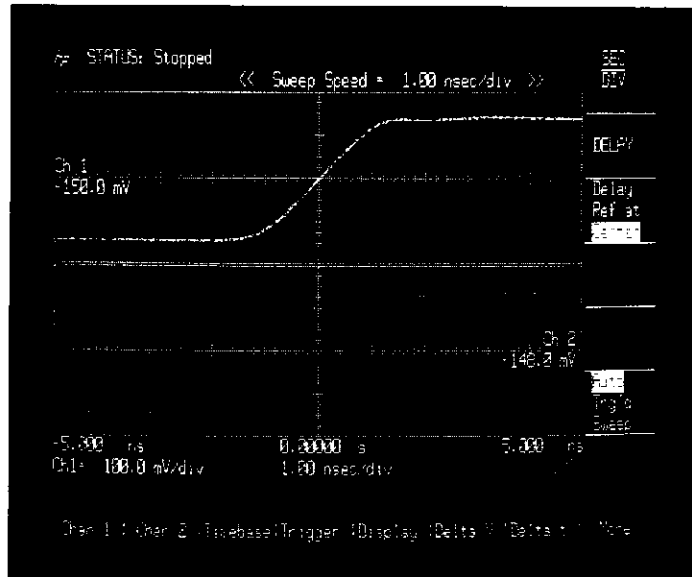
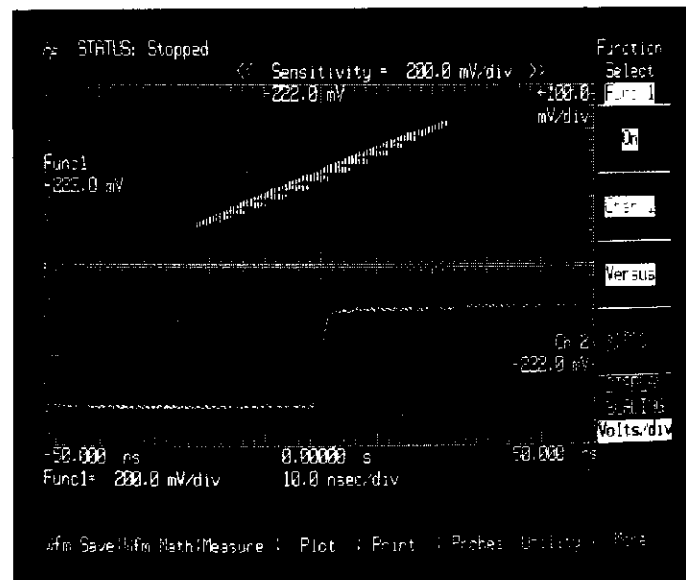

Figure 7-31. Precise Timing Resolution on Channels 1 & 2.
Figure 7-34 Chan 1 Versus Chan 2 with Low Timing Resolution.
4. Select the Timebase menu and set the SEC/DIV to 1 nsec/div (Figure 7-31). Notice the more precise time resolution (number of data points) on the edges of the signal as compared to the low timing resolution.
7. Return to the Wfm Math menu and turn Func 1 on. The resulting chan 1 versus chan 2 (top of Figure 7-34) shows rectangular steps that occur when insufficient edge resolution is used. This is a result of the random repetitive sampling technique used in the 54110D, where by, many voltage points can be taken in the same time interval (as referenced to the trigger). Channel to channel timing skew may further aggravate this situation. To eliminate this phenomena, you should increase time resolution on the edges as shown in figures 7-31 and 7-32. These expanded waveforms allow for more data points on the given waveforms. The increased number of data points on the waveforms reduce the potential for inaccuracies.